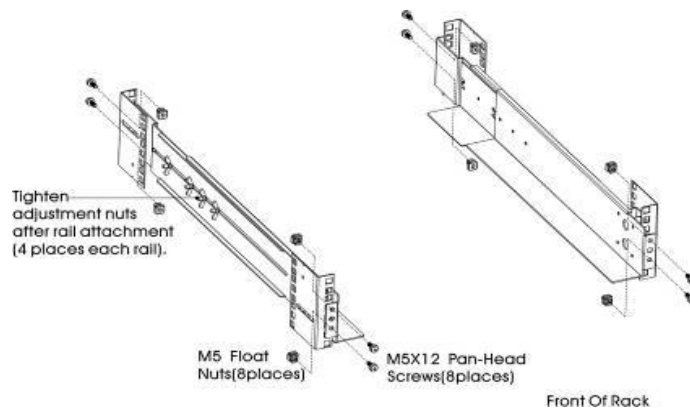

Figure 2 - Fixing the Rails
- b) Select the proper size in the rack for positioning the UPS (see Figure 2). The rail occupies four positions on the front and rear of the rack.